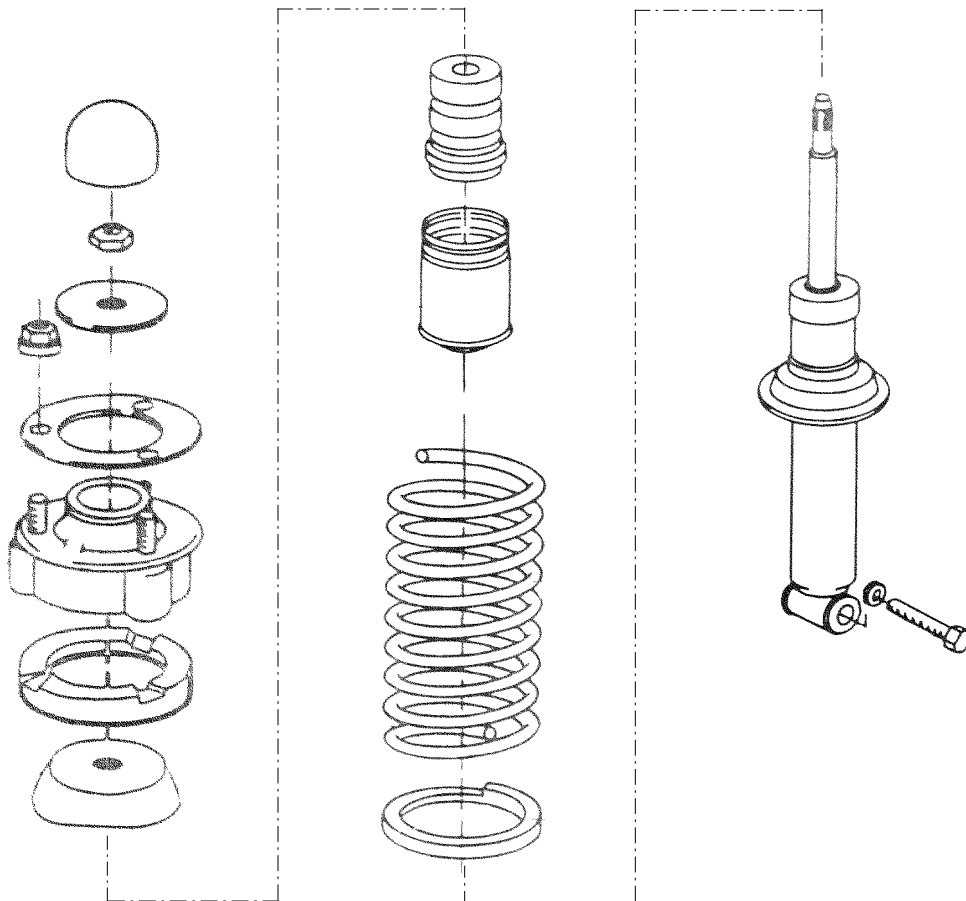

Figure 4
5. Assemble the new spring and shock assembly using the new hardware from the Elimination Kit. (See Figure 4)